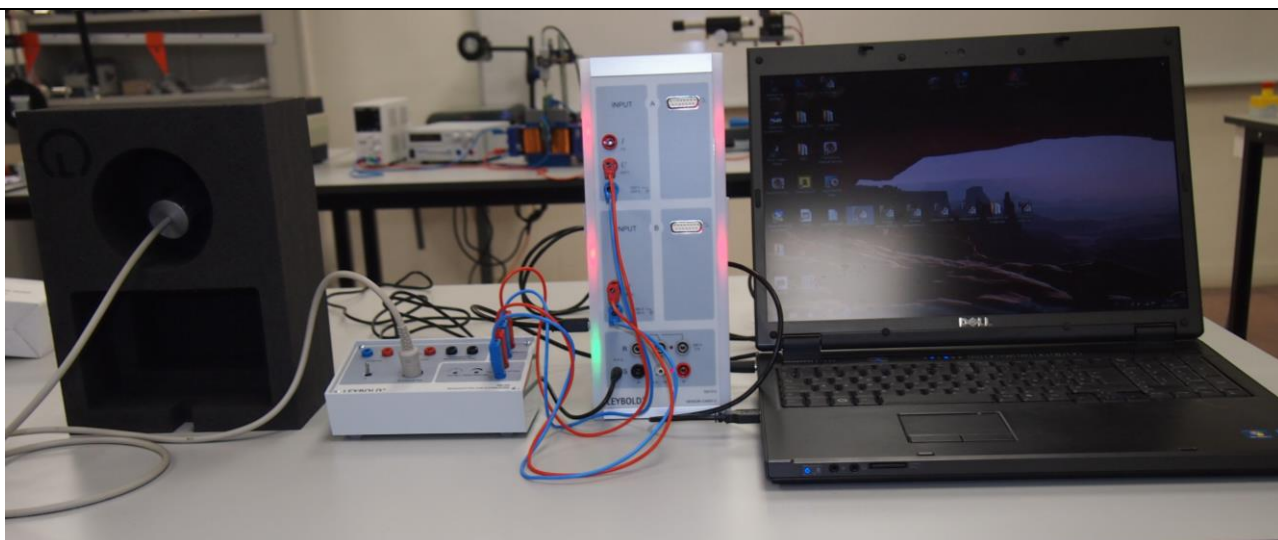

Figure 5. Experimental set-up for the determination of the TC of YBa2Cu3O7 .
- 6.1 Check that all the connections are properly performed (see Fig. 5). Check that the computer is switched on. If it is off, you must switch on.